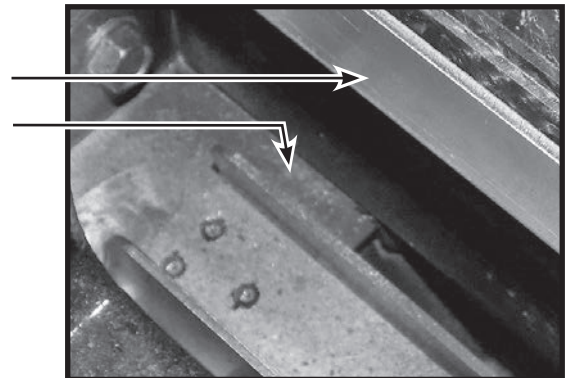

Fig. 49: Glass barrier positioning
1. Lower the glass barrier frame into place (Fig. 49) making sure that the frame fits into the horizontal slot on the floor of the firebox (Fig. 49).